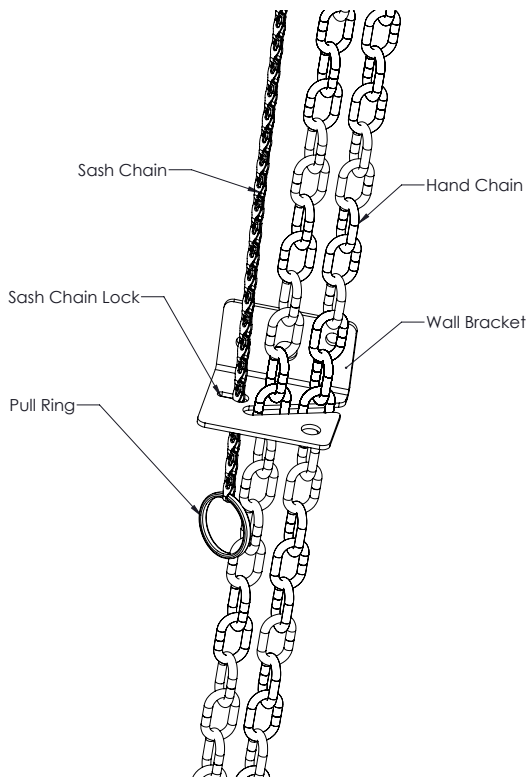

FIGURE 4
3. **Mount Manual Disconnect/Chain Keeper:** Using suitable hardware, mount the manual disconnect directly beneath the operator approximately four (4) feet above the floor. Install the sash chain on the spring that hangs from the operator and thread through the sash chain lock (Figure 4, page 5). Pulling down on the sash chain pull ring, should disengage the motor from door assembly allowing for manual operation.
1. Pull the sash chain down until it is tight. Then lock it into the sash chain lock in the wall bracket (Figure 4). This will disengage the motor. It will also engage the hoist mechanism if present.
3. To return to electrical operation, release the sash chain from the lock (Figure 4).